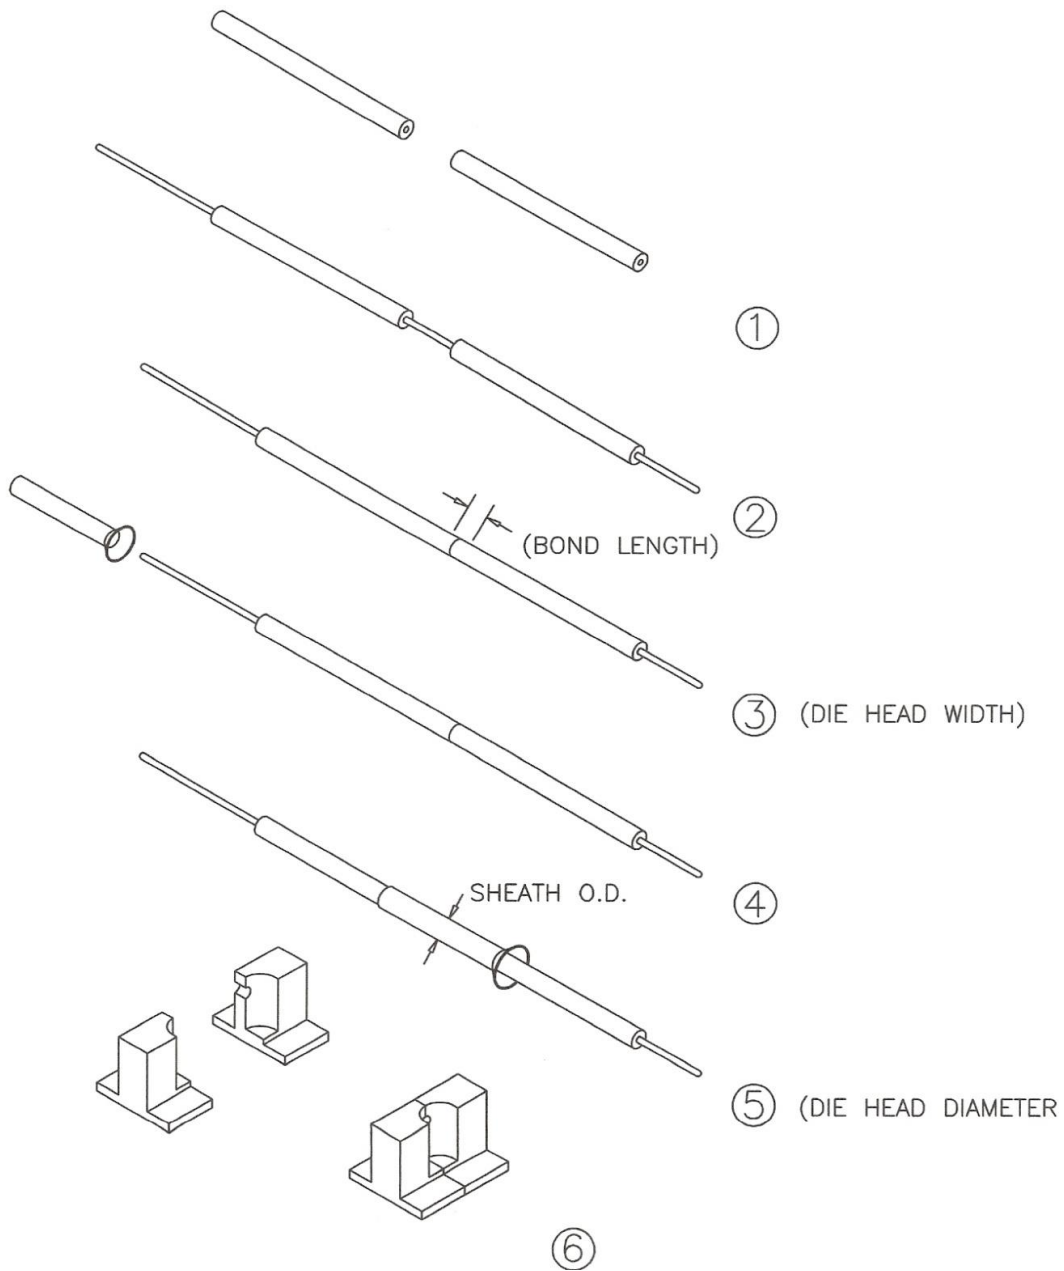

Figure B-1. Die Head Sizing
- Reference:** Figure B-1. Die Head Sizing
1. Assemble components to be bonded over mandrel(s) (Refer to Figure B-1, Steps 1-2).
2. Measure bond length, tubing overlap, balloon sleeve length (Refer to Figure B-1, Steps 1-3).
4. Figure B-1. Die Head Sizing Steps 1-4).
7. Figure B-1. Die Head Sizing Steps 1-5).